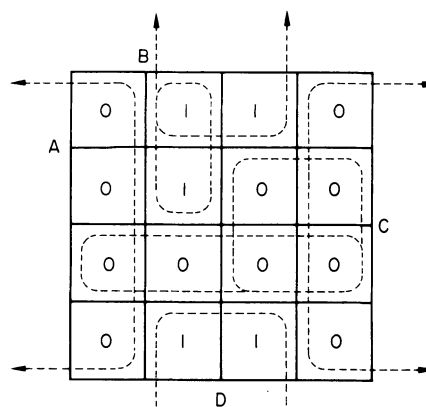

Figure 10.19
- The map of f is shown in figure 10.19.
This expression requires seven NOR gates. To obtain a logic circuit using fewer gates, consider the minimal expression for \bar{f} obtained from considering the '0's in figure 10.19.